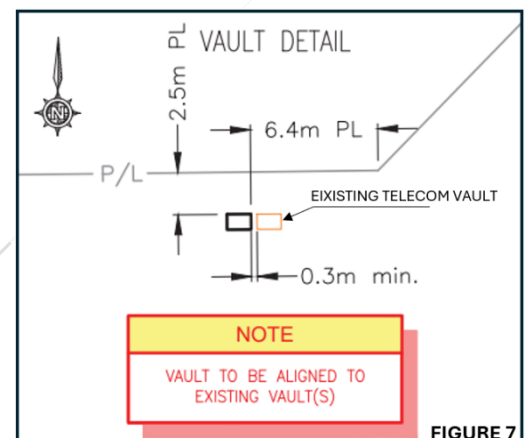

FIGURE 7
13. Additional details where warranted (e.g. new vertical structures require a detail showing its x , y alignment only; See Figure 7)
7. Example of a detail showing the placement of a new piece of vertical structure (e.g. vault, ped, etc), see FIGURE 7.